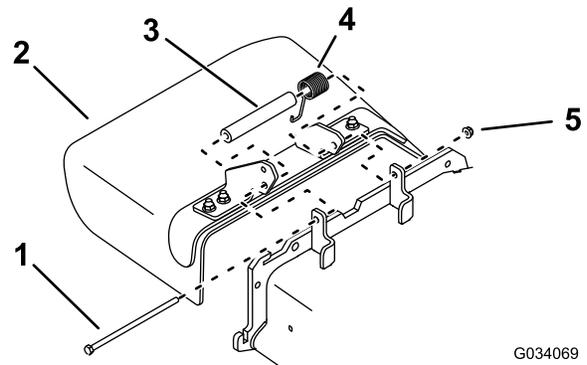

Figure 1
2. Remove the locknut, bolt, spring, and spacer holding the grass deflector to the pivot brackets (Figure 1). Remove the grass deflector.